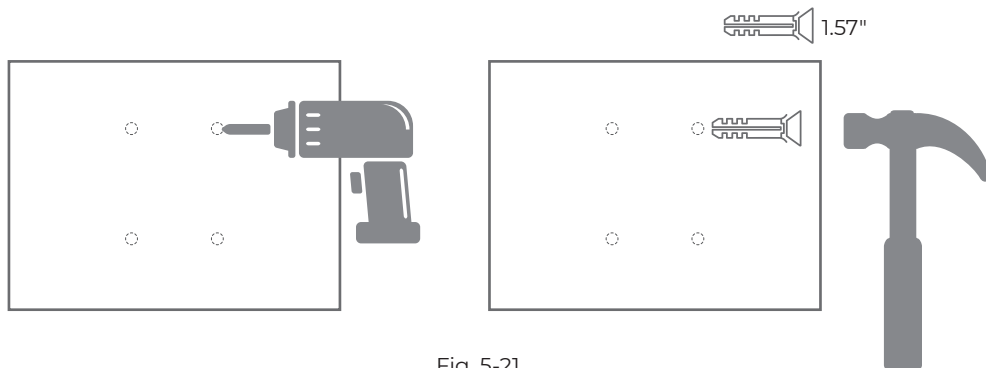

Fig. 5-21
3. Drill the mounting holes on the wall with a depth of at least 1.57" (40 mm), and hammer the plastic expansion anchors into the holes. (See Fig. 5-21)